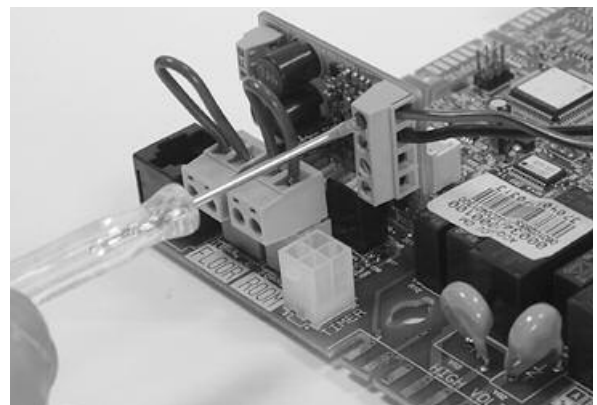

Fig. 106
2. Install the interface PCB supplied in the external sensor kit on the main PCB (see Fig. 106);
3. Connect the wires between the external sensor and the interface PCB* (see Fig. 106).